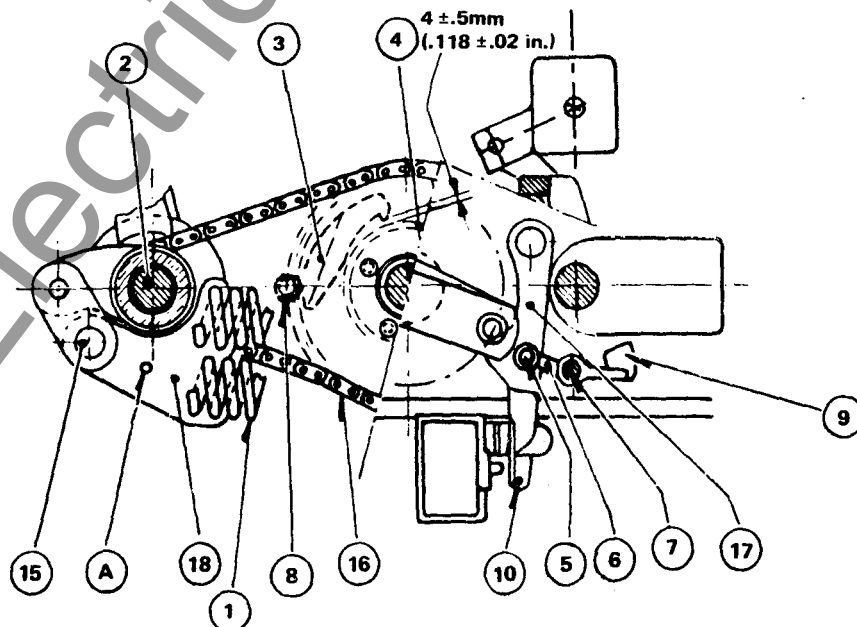

Figure 8
- Clearance between the ratchet pawl (3, Fig. 8) and the sprocket wheel (4, Fig. 8) is different from the prescribed clearance. – See 7.4.4 for adjustment.
7.3.2 Problem with the Spring Charging Motor or in the Chain (16) (Figure 8)
- The trip bar (8) is not warped and is not held upward by foreign matter.
- That the pins (11) are provided with washers and split rings.
- That the lever (12) is not warped and moves freely.
- That the spring (13) is fastened securely.
7.4.3 Checking the Closing Release (7) for Closing the Breaker (Figure 8)
- Check for free movement of closing release bar (7) and make sure that when it is in the stop position, the right end of lever (6) is stopped by the slot (9) in the dividing plate.
- Roller (5) should engage lever (6) with a minimum overlap of 1.5mm (.06 inch).
7.4.4 Adjustment of the Clearance between the Ratchet Pawl (3) and the Sprocket Wheel (4) to prevent undue stresses to the Chain or to the Spring Charging Motor (Figure 8)
Replacement of Closing Springs (Fig. 8).